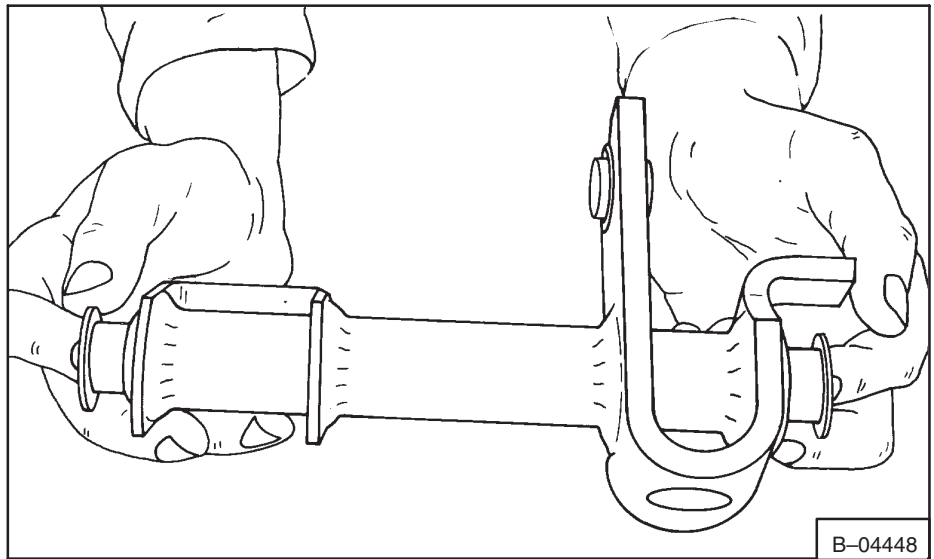

Fig. 3-12 Installing Teflon Bushings
3. Install new Teflon bushings on the steering levers (Fig. 3-12).